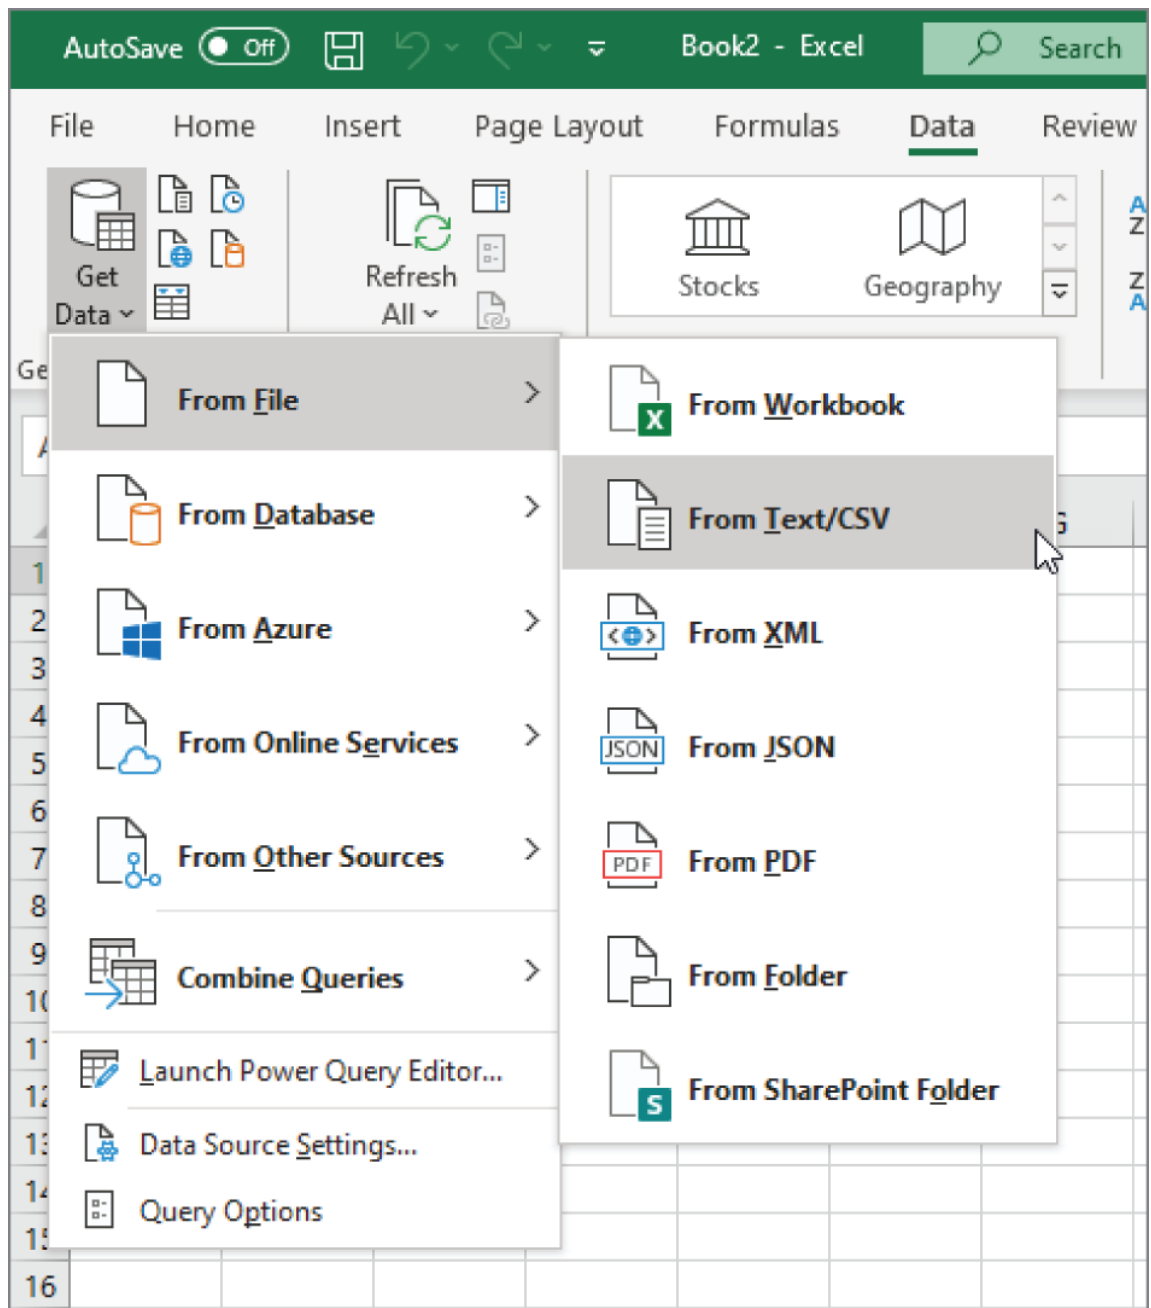

Figure 3.5: The Get Data drop-down on the Ribbon
2. Choose Data ⇨ Get Data ⇨ From File ⇨ From Text/CSV from the Ribbon as shown in Figure 3.5.